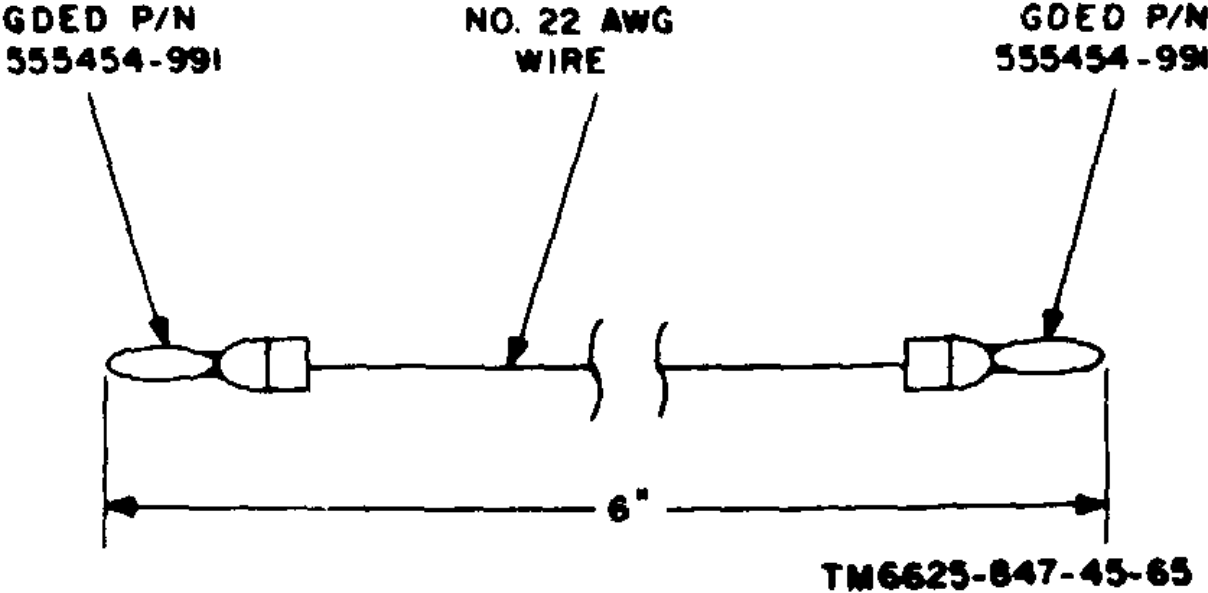

Figure 4-2. Jumper wire fabrication diagram.
- (1) Multimeter AN/PSM-6B.
- (2) Oscilloscope AN/USM-140(*)
- (3) Charger, Battery PP-1451/G.
- (4) One each of the following load resistors:
- (5) Fabricate the -test cable as shown in figure 4-2.